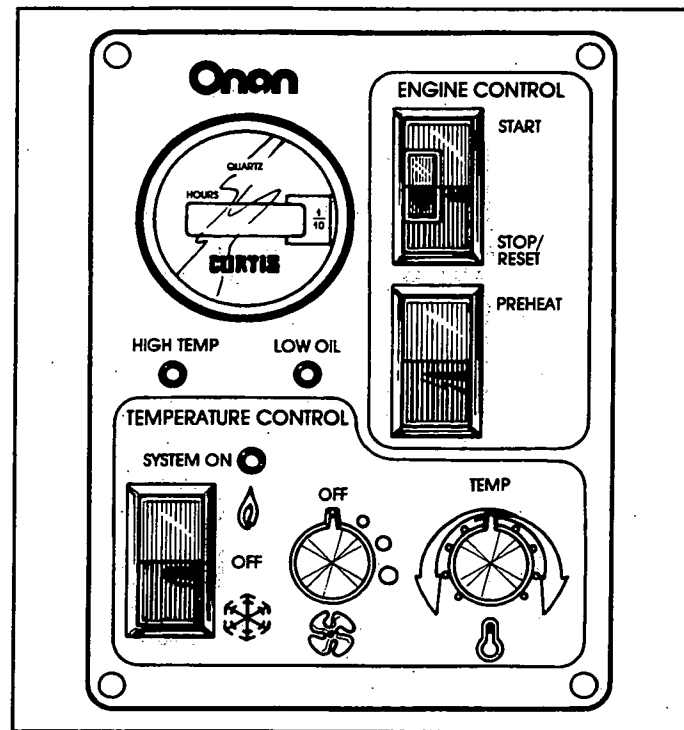

FIGURE 5. CONTROL PANEL
The control panel is used to start the power unit and to control the sleeper heating and air conditioning. The control panel also monitors power unit fault conditions for high coolant temperature and low oil pressure. The control panel features are described in the following section (Figure 5).
1. Push the Heat/AC switch to the heat position (see Figure 5).
1. Push the Heat/AC switch to the AC position (see Figure 5).
1. Push the Heat/AC switch to the center Off position (see Figure 5).